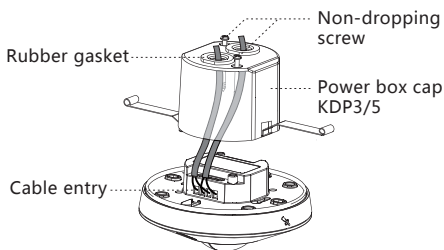

FIG.11
- Use screwdriver to break the rubber gasket on KDP3/5, then feed cables through it (See FIG.11).